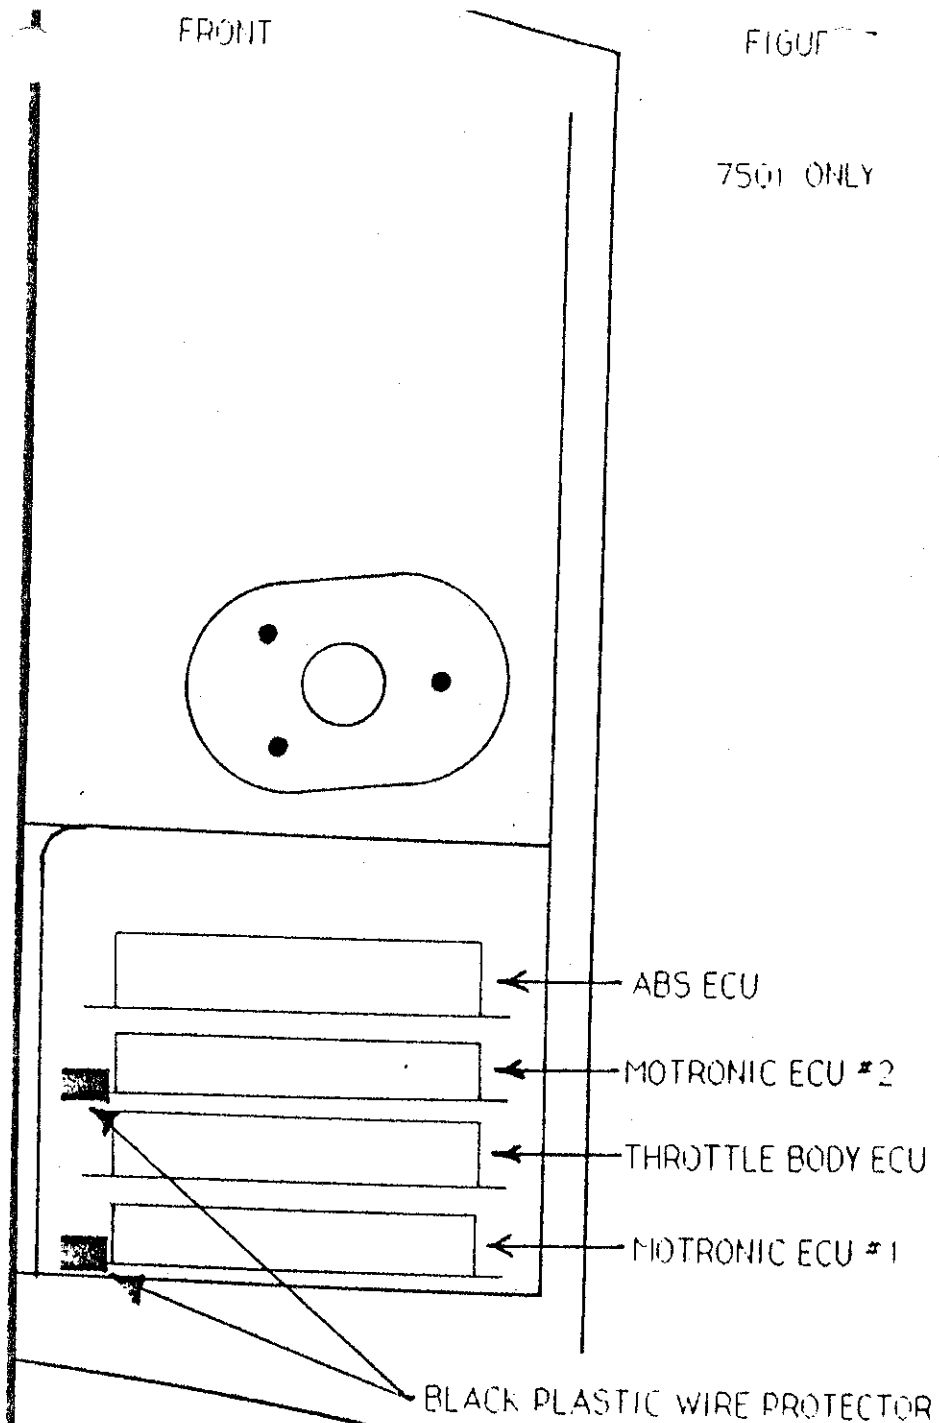

FIGURE 4
5. See figure 4. Place ECU on workbench with part number label face down and using the pocket screwdriver pry the ten lock tabs that hold the unit together up slightly. Just enough to get the small screwdriver under the tabs and finish prying the tabs straight up. Separate case, set cover aside. Check to make sure your ECU has two printed circuit (PC) boards. If you have a single PC board ECU you have a newer design ECU and this chip will not work. Call Dinan Engineering @ 415-962-9417.